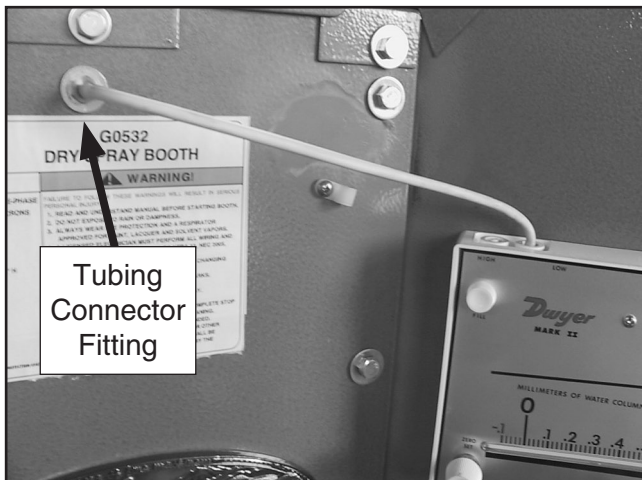

Figure 25. Tubing installed onto spray booth chamber.
3. Install a tubing connector fitting in the larger pre-drilled hole on the side of the booth near the manometer as shown in **Figure 25**.
4. Run tubing from the low pressure side (-) of the manometer to the tubing connector fitting as shown in **Figure 25**.